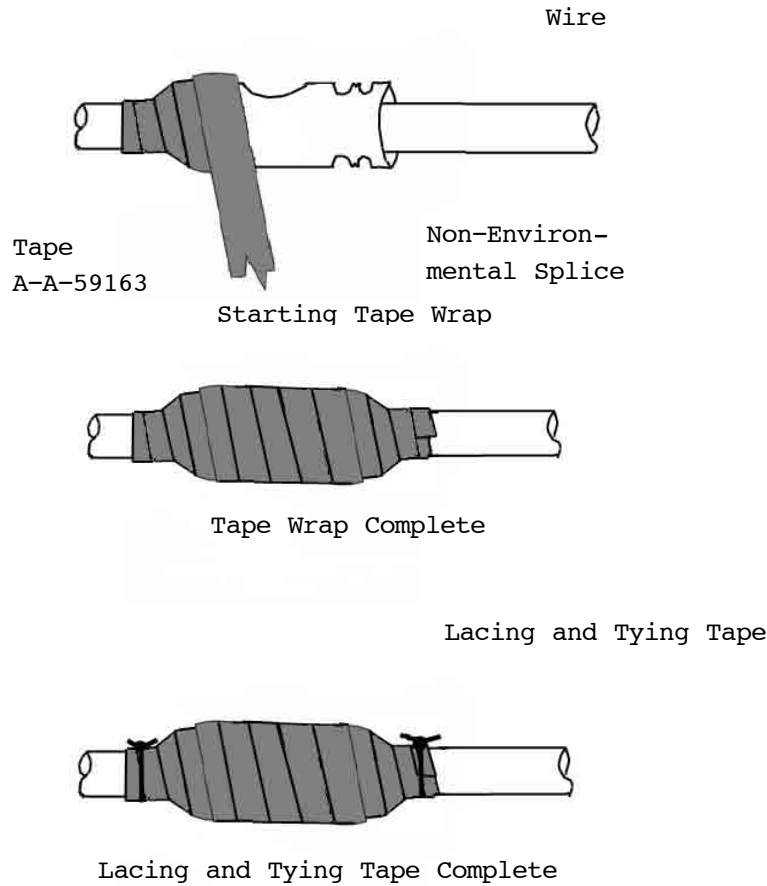

Figure 21. Taping Non-Enviornmental Splice
b. Silicon Tape Sealing (Figure 21).
(1) Wrap splice or terminal with silicon tape A-A-59163.
(2) Using lacing and tying A-A-52083 or A-A-52084, tie both beginning and end of tape wrap.